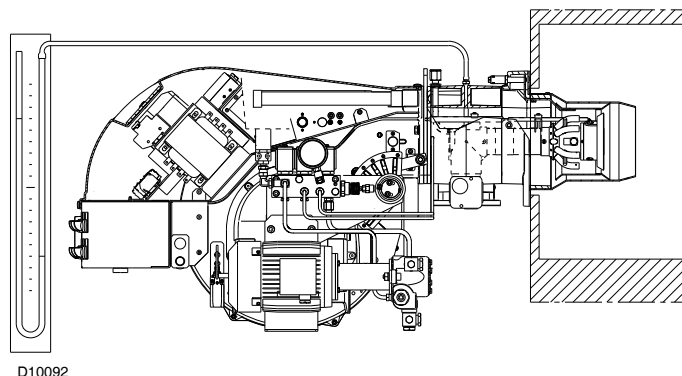

Fig. 41
- Fit a U-type manometer (Fig. 41) to the gas pressure test point on the sleeve.